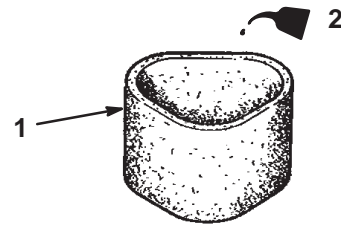

Figure 28
- C. Put oil on the element (Fig. 28). Squeeze the element to distribute the oil.